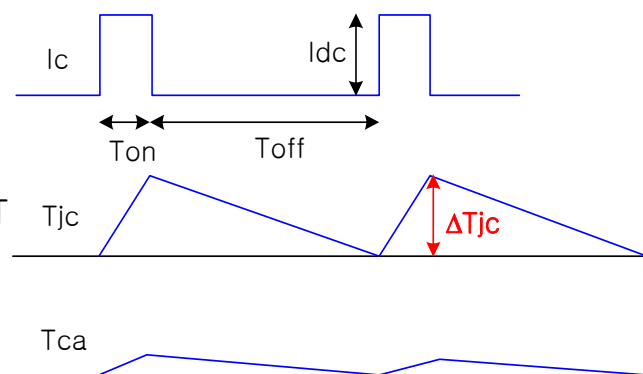

Fig.2. Pulse duty of current for power cycle test
2. For the measurement point of case temperature(T_c), please refer to Figure 2.